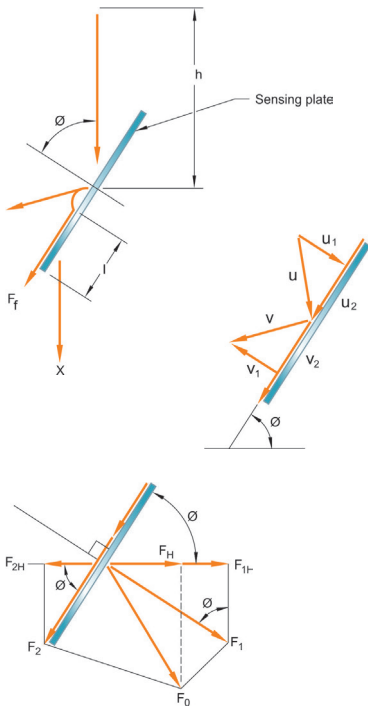

Figure 1
The principle of an impact-based flowmeter is as follows: when solid material is gravity fed from a chute or pipe at a height (h), the horizontal component of the impact force generated at the plate (F_0) is proportional to the mass flow rate (G) of the material. The free body models shown in Figure 1 illustrate this principle, and the following equations are obtained.